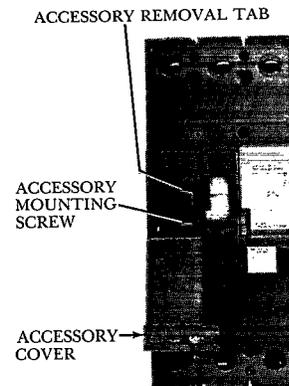

Figure 2. Accessory mounting screw and removal tab in accessory compartment.
Remove the Philips-head accessory-mounting screw in the recessed area in the lower-right corner of the accessory, as illustrated in Figure 2.
- If there are no wires exiting the left side of the breaker – Take hold of the accessory removal tab with pliers and, with a gentle rocking motion, pull upward until the accessory is released. The removal tab is located just above the accessory mounting screw, as shown in Figure 2.
Fasten the accessory to the breaker cover by tightening the accessory mounting screw, shown in Figure 2, to 7-10 in-lb. Do not overtighten this screw.